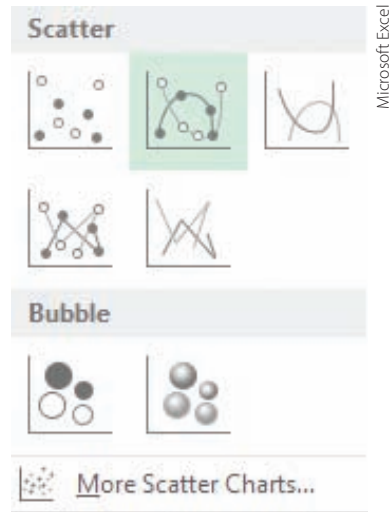

FIGURE 14.16
2. Next, pick the **Insert** tab and then select Scatter (Figure 14.16) with the Smooth Lines and Markers button.